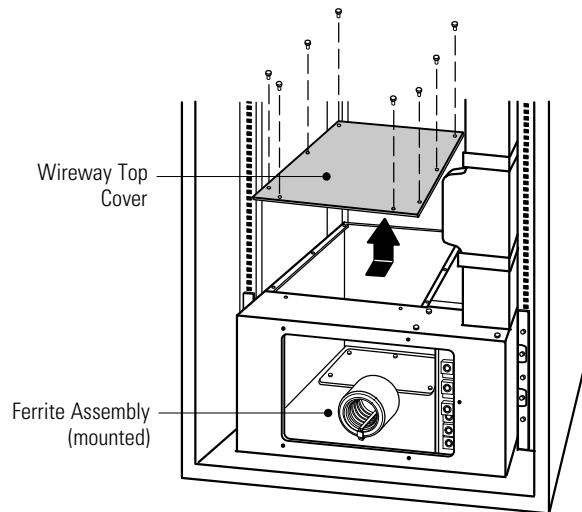
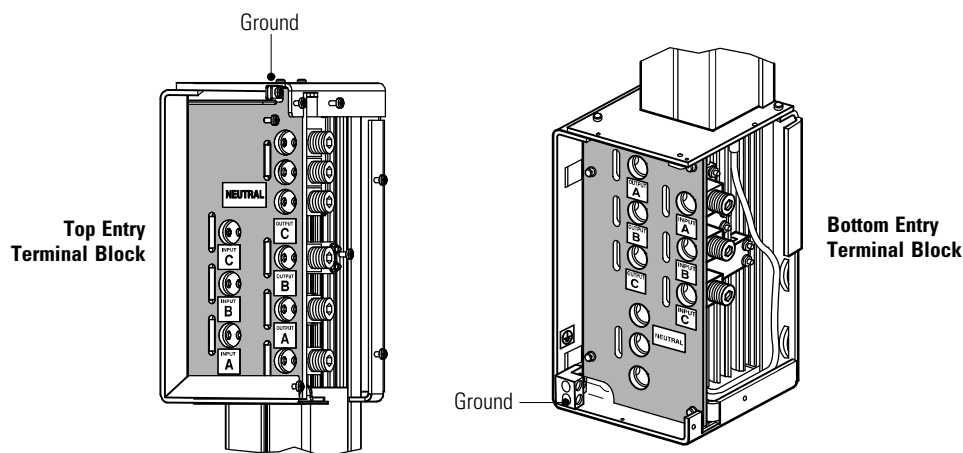

Figure 6. Removing the Wireway Top Cover
Figure 8. BladeUPS Bar Terminal Block
2. **Bottom Entry Wiring only.** Remove the eight screws on the wireway top cover and retain. Slide the cover back and off the wireway and retain. See Figure 6.
- Connect the input, output, and ground wires to the BladeUPS Bar terminal block according to Figure 8 and Table 2. Route the three input phases and the input neutral through the mounted or loosened ferrite assembly (see Figure 6).